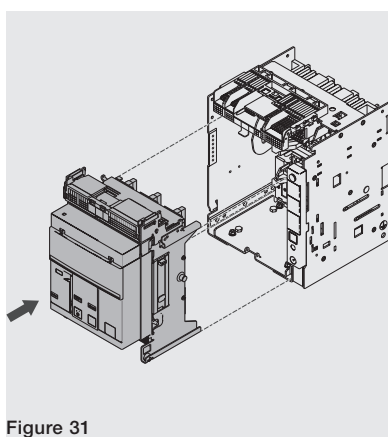
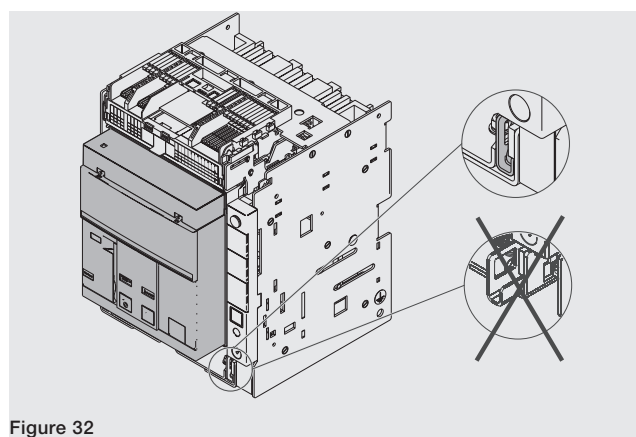

Figure 31
Figure 32
3. Position the moving part in the fixed part and push until it comes to a stop. See Figure 31 and Figure 32.